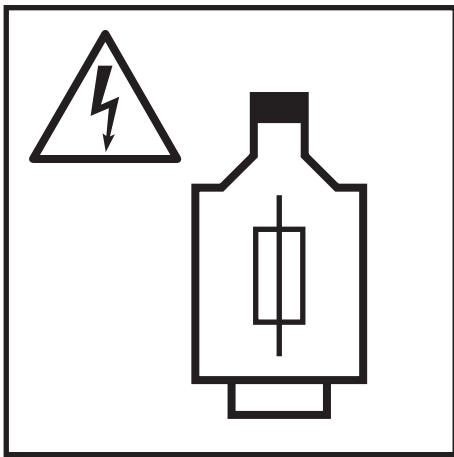

Fig.: 13
2. Allow for fuses for each individual phase (fig. 13)